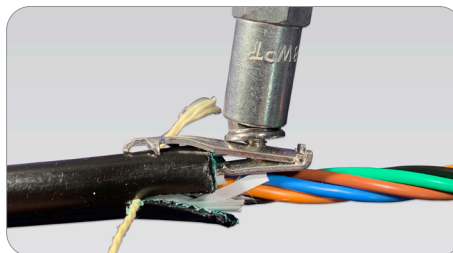

Figure 4
3. When attaching bond braid, if additional grounding or bonding eyelet is used, install it above the first nut and secure it. (Figure 4)